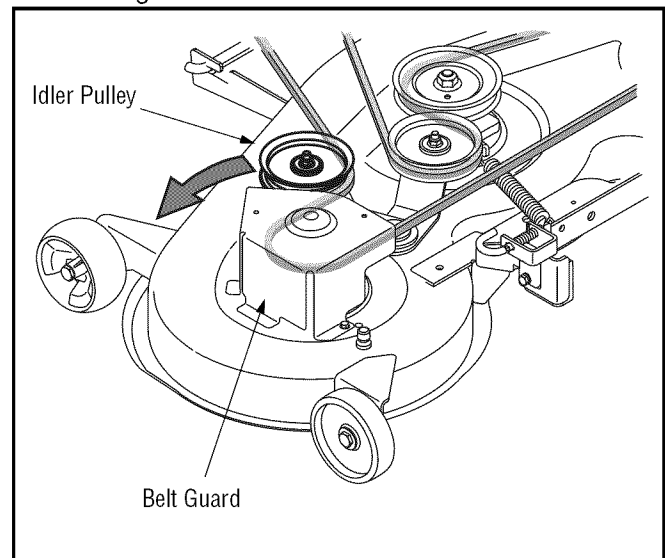

Figure 22
- Carefully grasp the idler pulley and pivot it toward the tractor's left side to relieve tension on the belt. See Figure 22.